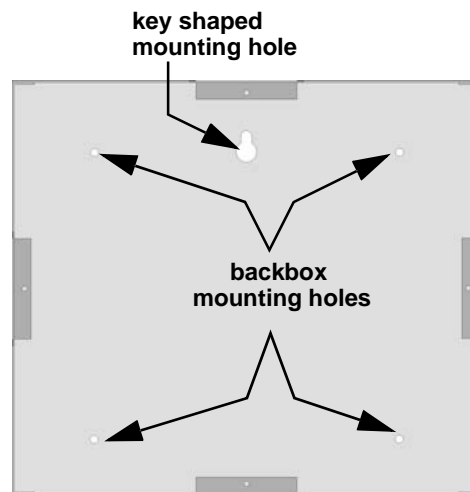

Figure 4-15 Backbox Surface Mount Holes
- To properly mount the backbox, insert a single screw into the key shaped mounting hole. Do not tighten all the way. See Figure 4-15.